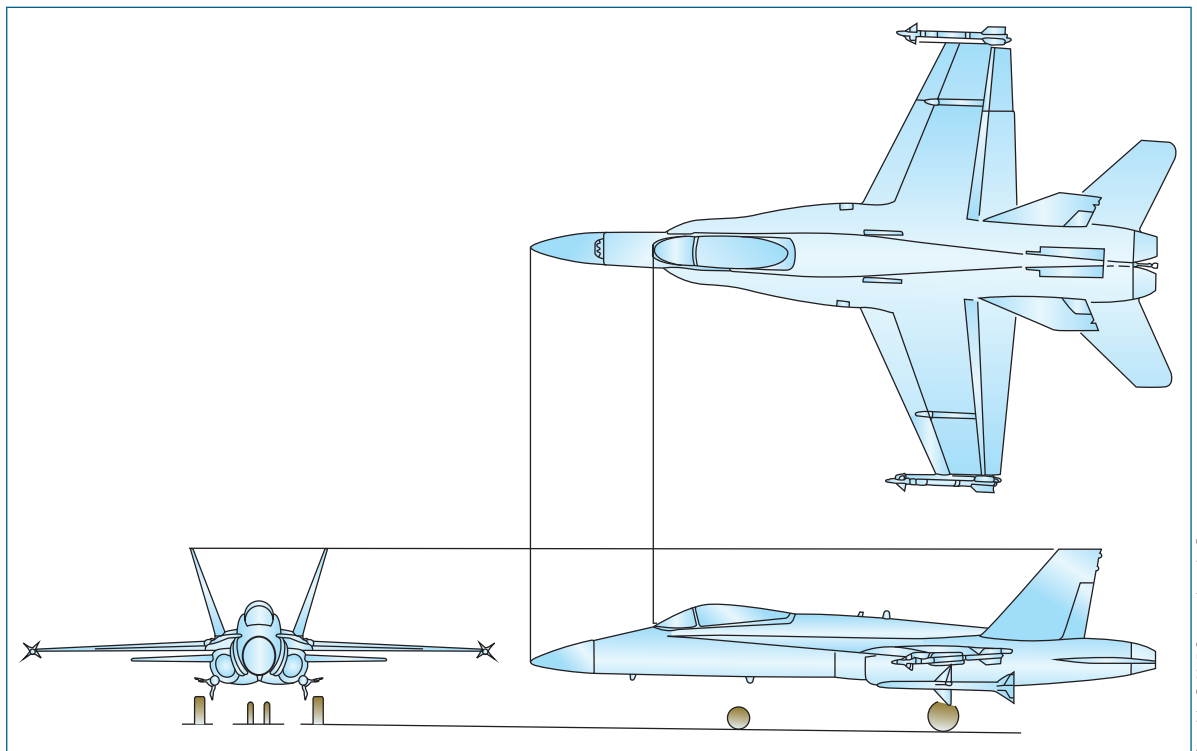

Figure 1-15 Discuss the concepts of the jet's multiview drawings.
10. Discuss the concepts of the jet's multiview drawings in **Figure 1-15**.